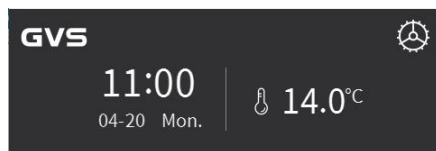

Fig.2.3
- ④ **When external temperature is configured, there is an "E" at the upper right corner of the icon;**
**When internal temperature is configured, there is no "E" at the upper right corner of the icon, as shown in Fig.2.3;**